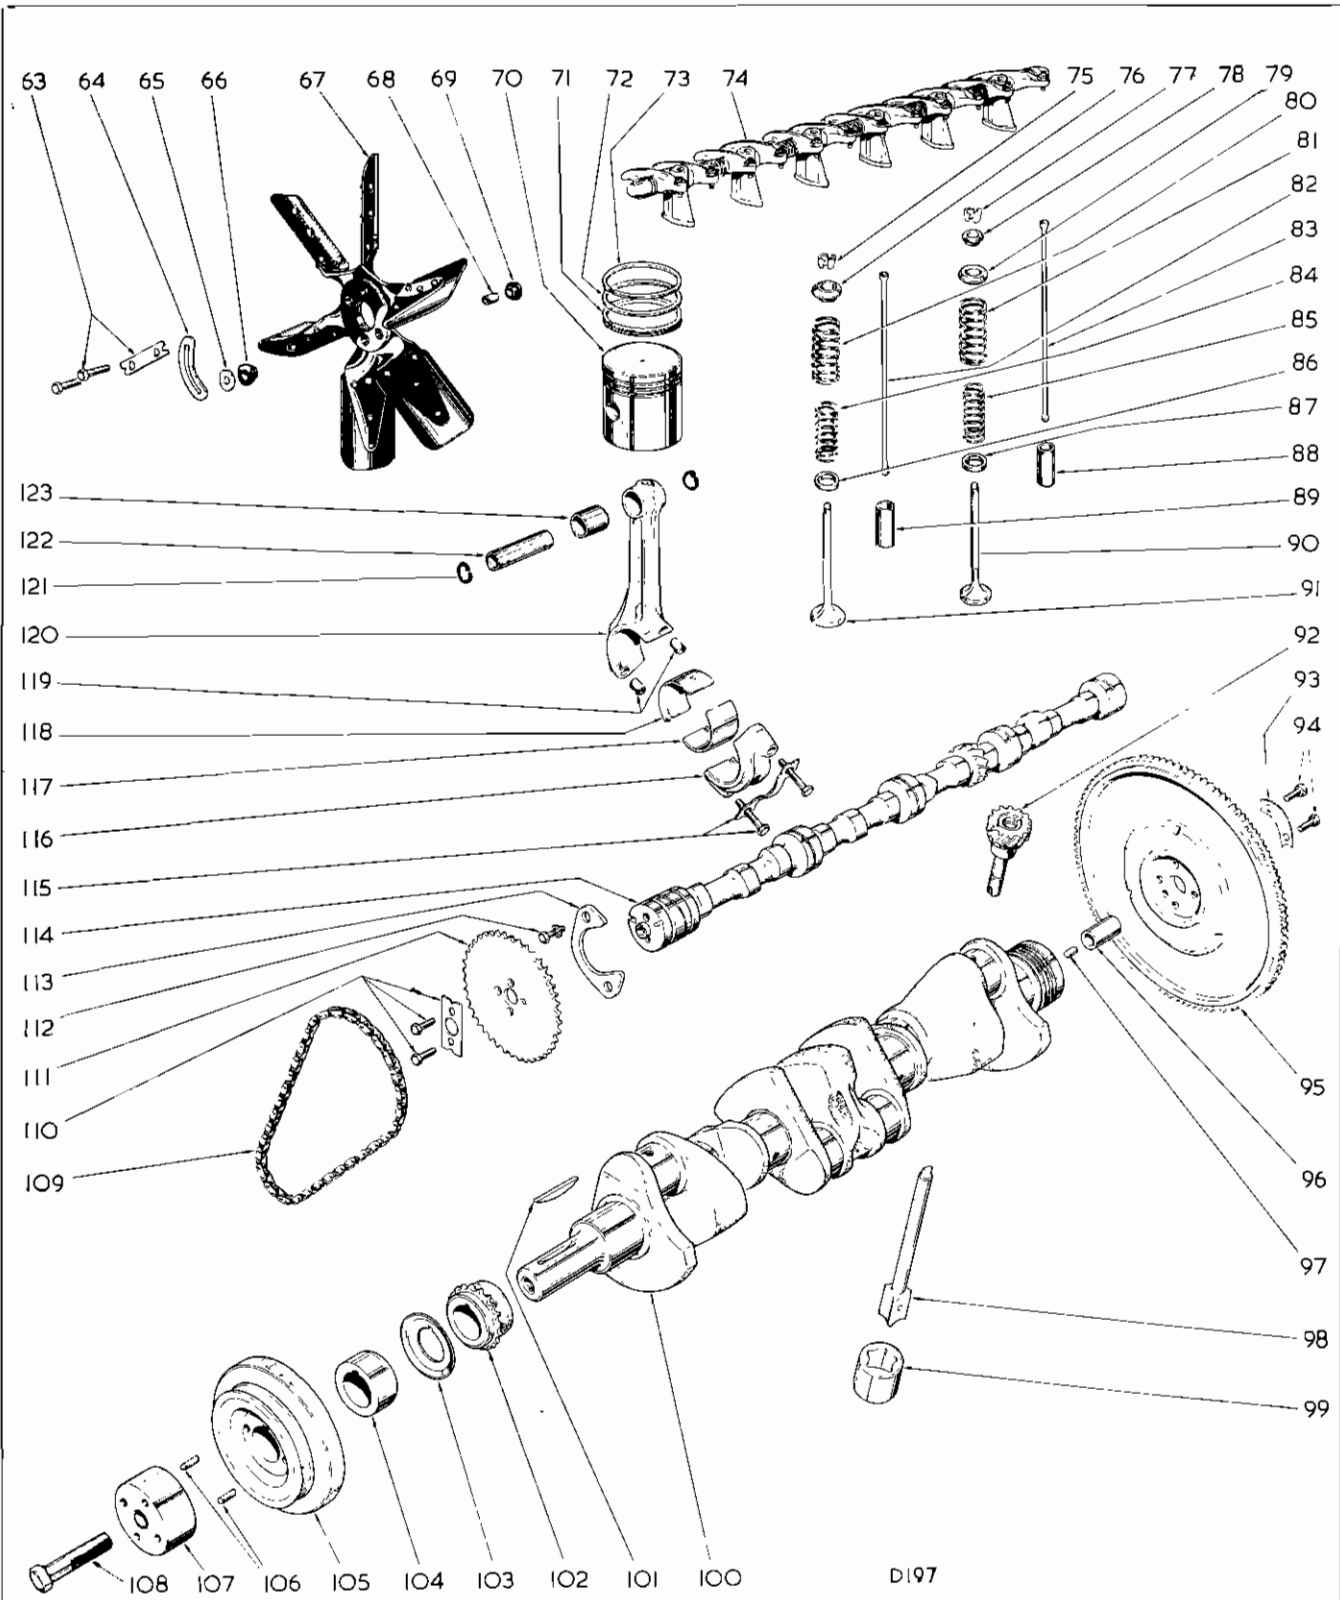

Fig. 10. Vitesse engine details (moving parts)
## Key to Fig. 10
- Fuel pipe to pump (12).
- Cable to coil (8) and 'D' and 'F' cable to generator (10 and 11).
- Oil pressure switch cable (9).
Fit the shouldered rubber bushes (66), Fig. 10, steel bushes (68), balancer (64) and fan (67), aligning the holes in the balancer, fan and boss (107) with the shank of a  $\frac{1}{16}$ " (1.6 mm.) dia. drill to maintain the original balance of the assembly.